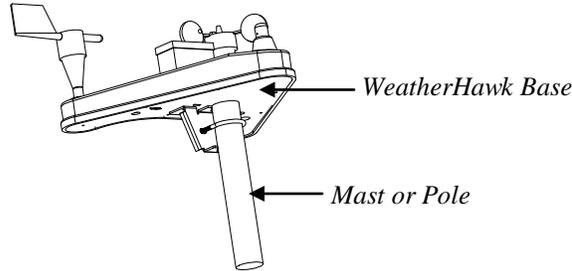

Figure 12: The WeatherHawk assembly properly seated on a mast or pole.
1. Place your WeatherHawk assembly on top of the mast or pole with the base firmly seated on the top edge of the mast or pole (Figure 12).